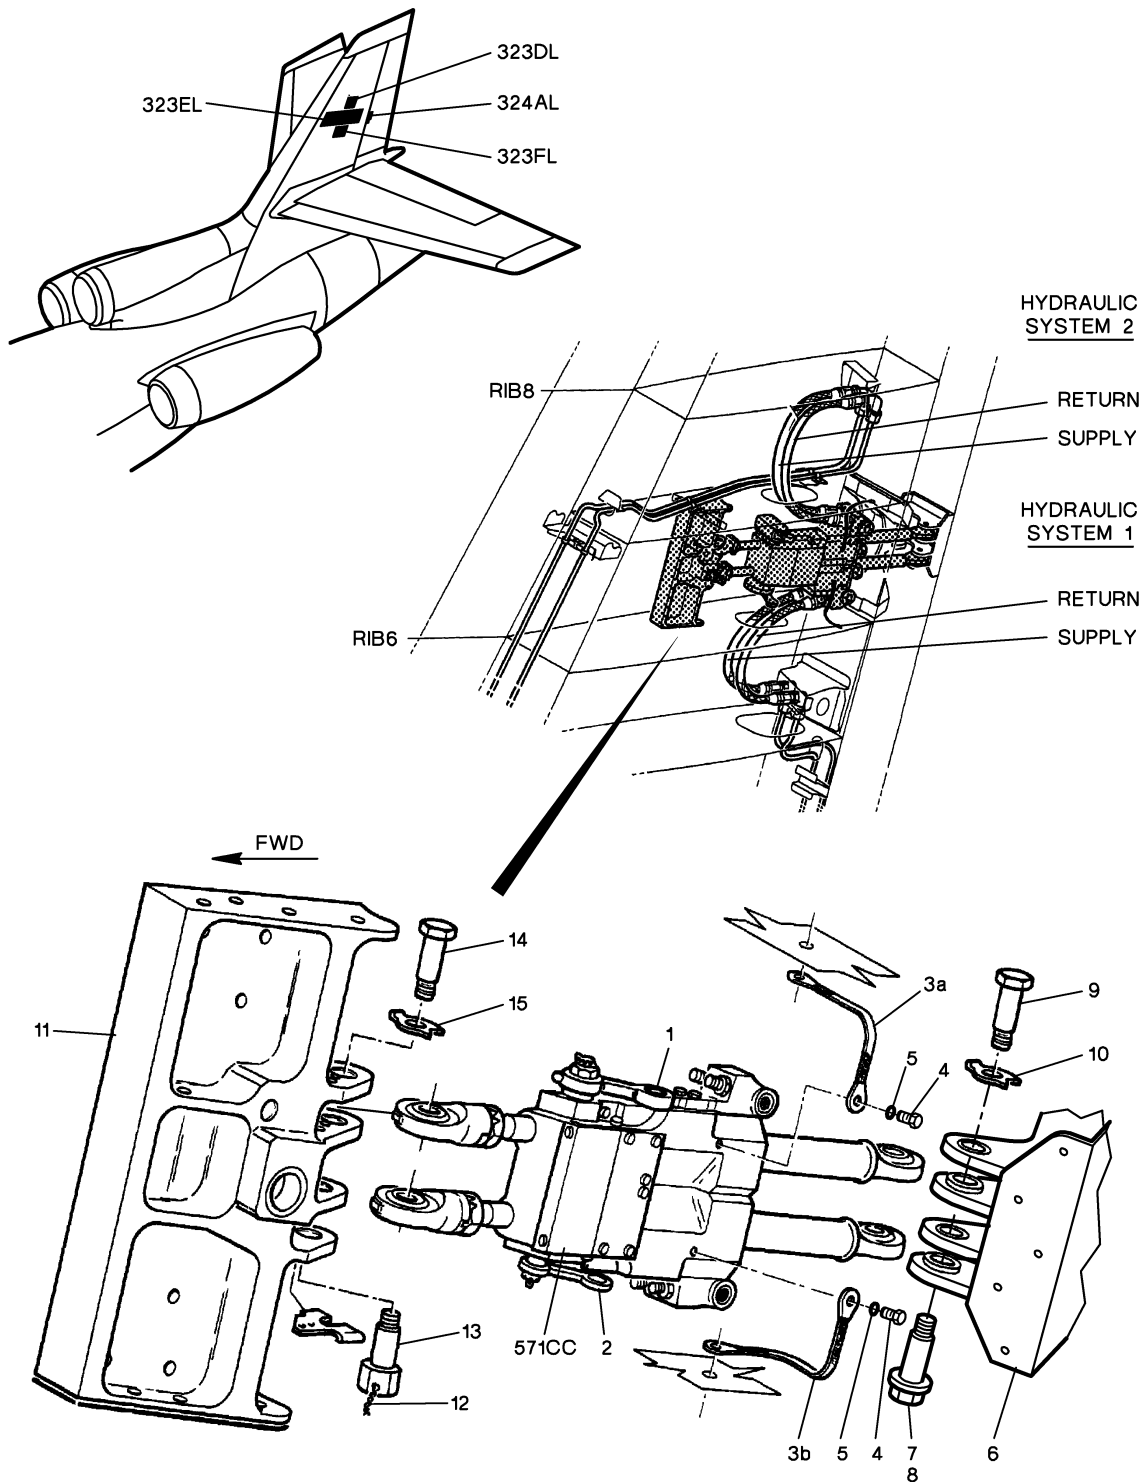
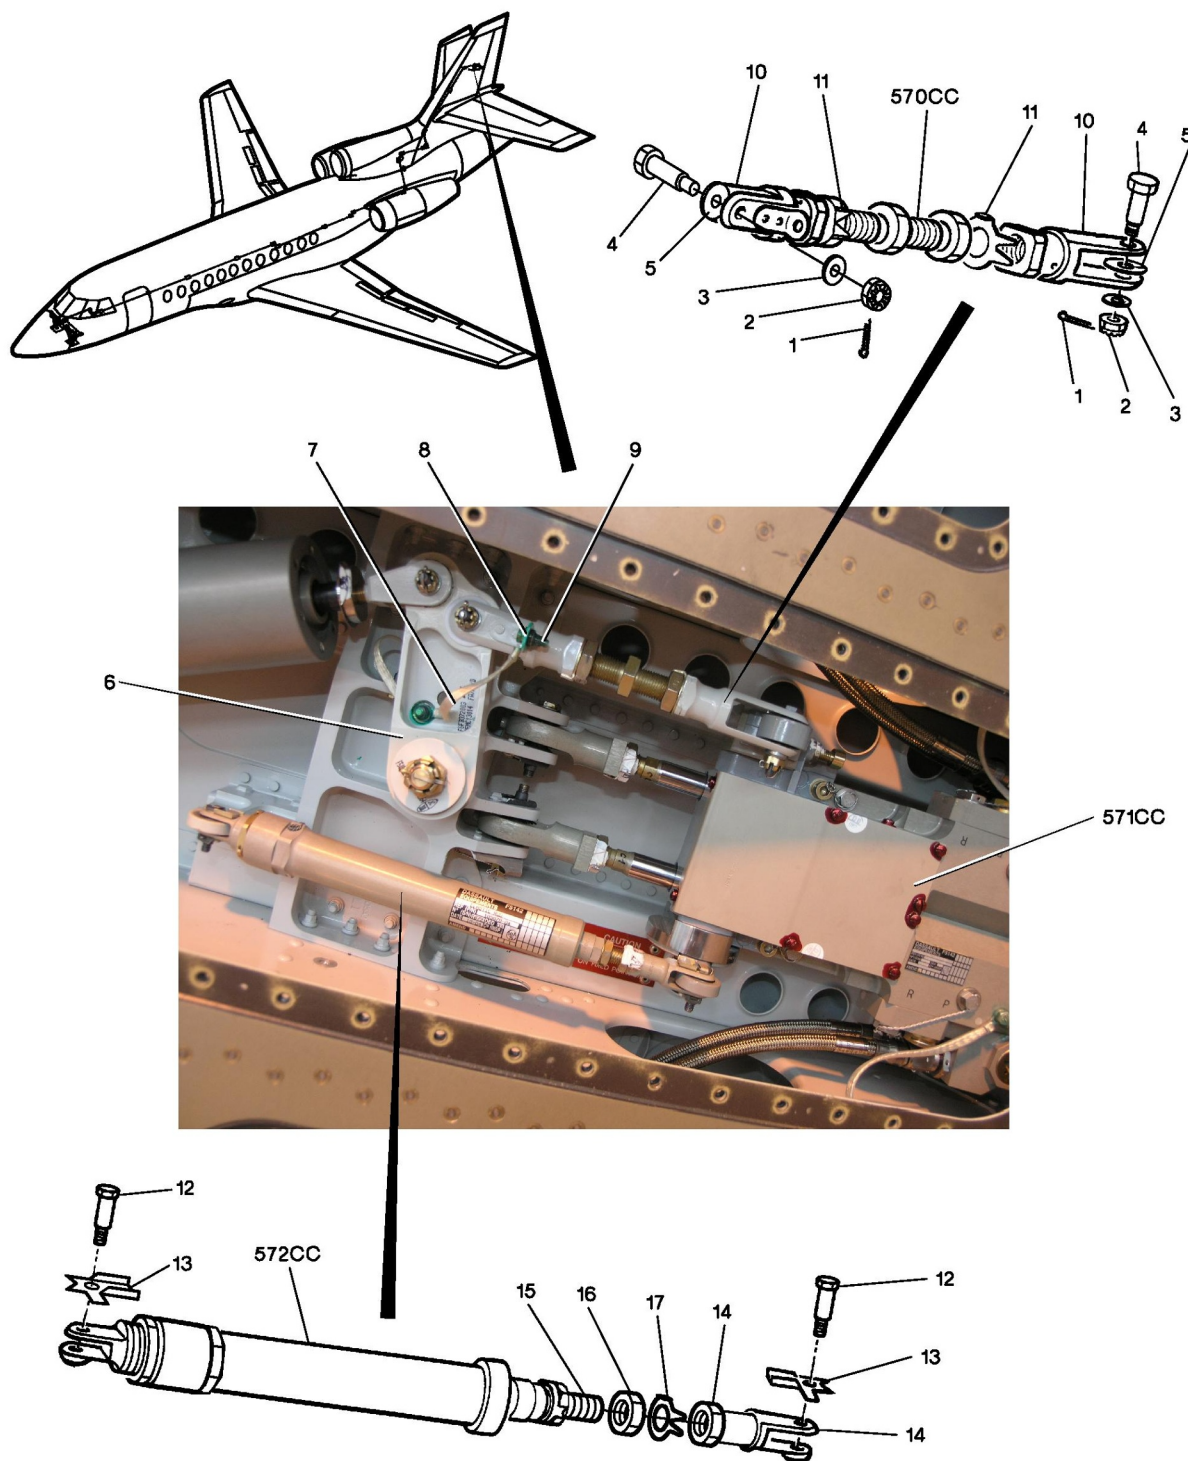

Figure 1: Removal/Installation of Rudder Servo-actuator
Figure 2: Removal/Installation of Components at Servo-actuator
Refer to **fig. 1** and **fig. 2**
B. Connection of the rudder servo-actuator (**fig. 2**)
- (1) On fin fitting (11) side
- (a) Screw in attaching pin (14) with a new lockwasher (15) (F50B321016003).
- (b) Install attaching pin (13).
- (2) On drive bellcrank (6) side
- (a) Screw attaching pin (9) with new lockwasher (10) (F50B321016003).
- (b) Install attaching pin (8).
- (3) Torque attaching pins (8), (9), (13) and (14) to 0.6 m.daN (53 in.lbf).
- (4) Bend lockwashers (10) and (15).
- (5) Safety pin (13) with **lockwire MS20995C63**.
- (6) Safety pin (8) with **lockwire** (MS20995C32).
- C. Connection of the four removable hose couplings according to the location marks (**fig. 1**)
- (1) Remove the protective plugs from all the couplings to be connected.
- (2) Connect the couplings of removable hydraulic hoses (S1) and (R1) to the A/C side rigid couplings (through access door (**323FL**)).
- (3) Safety the removable hydraulic hose couplings (S1) and (R1) to each other with **lockwire** (MS20995C32).
- (4) Connect the couplings of removable hydraulic hoses (S2) and (R2) to the A/C side rigid couplings (through access door (**323DL**)).
- (5) Safety the removable hydraulic hose couplings (S2) and (R2) to each other with **lockwire** (MS20995C32).
- D. Connection of yaw AAFU (**572CC**) to servo-actuator input lever (**fig. 2**)
- (1) Using an oil can filled with **lubricating oil**, lubricate attaching pin (12).
- (2) Install a new tabwasher (F50B331101201A1) (13).
- (3) Install attaching pin (12).
- NOTE 1: Attaching pin (12) must be installed with its head upwards.
- NOTE 2: Tabwashers (13) must not be bent. Safetying will be performed when installing the yaw AAFU permanently on A/C (after the adjustment/tests (Refer to **TASK 27-20-00-820-801**, paragraph "Adjustment/Tests with Hydraulic Systems Pressurized)).
- E. Connection of rudder servo-actuator drive rod (**570CC**) to servo-actuator drive lever (**fig. 2**)
- (1) Using an oil can filled with **lubricating oil**, lubricate attaching pin (4).
- (2) Install anti-swiveling washer (5).
- NOTE: It may be necessary to replace the anti-swiveling Teflon washer (5) (MY20270-001).
- (3) Install attaching pin (4).
- F. Connection of bonding braids (3a) and (3b) (Refer to TASK 20-20-00-900-801) (**fig. 1**)